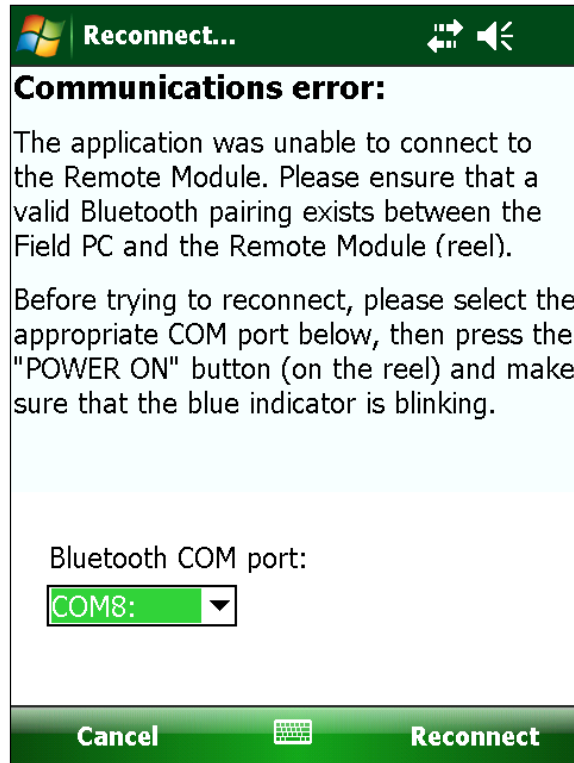
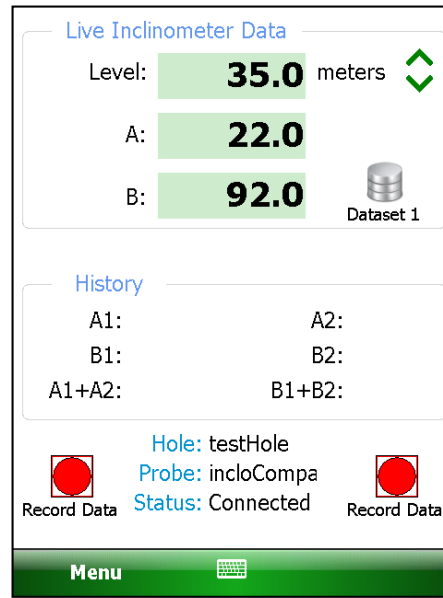

Figure 28 - Remote Module Connection Problem
Figure 32 - Live Readings Screen
8. From the “Port:” drop-down list, select a COM port. Select either COM6, COM7, or COM8. The other COM Ports are used by the system and will be unavailable. Be sure to remember the number of the COM port as you may have to select it later in the readout software (see sections 3.3.1 and 3.3.3, as well as Figure 28). Make sure to “uncheck” the “Secure Connection” check-box. Tap “Finish” when done to return to the Bluetooth Settings “COM Ports” screen.
Tapping on this menu item initiates the Remote Module connection process and after a successful connection, the Live Readings screen will be displayed (see Figure 32). Should the connection attempt fail, the window shown in Figure 28 will be displayed with suggestions for correcting any issues before re-trying.
To dismiss the “View saved data” window tap on “ok” which will then display the “Load previous data” prompt (see Figure 31). Tapping “Yes” on the Load previous data” window will load the temporary data into memory and then display “Live Readings” (see Figure 32). Tapping “No” will load “Live Readings” as normal (see Figure 32).
2) The “Live Readings” screen is displayed (Figure 32).
This feature requires an active connection to a Remote Module and will attempt to connect when invoked. If a connection cannot be made, the window shown in Figure 28 will be displayed.
**None** On the Live Readings Screen, the only indication of stability will be to monitor the A and B readings (see Figure 32).